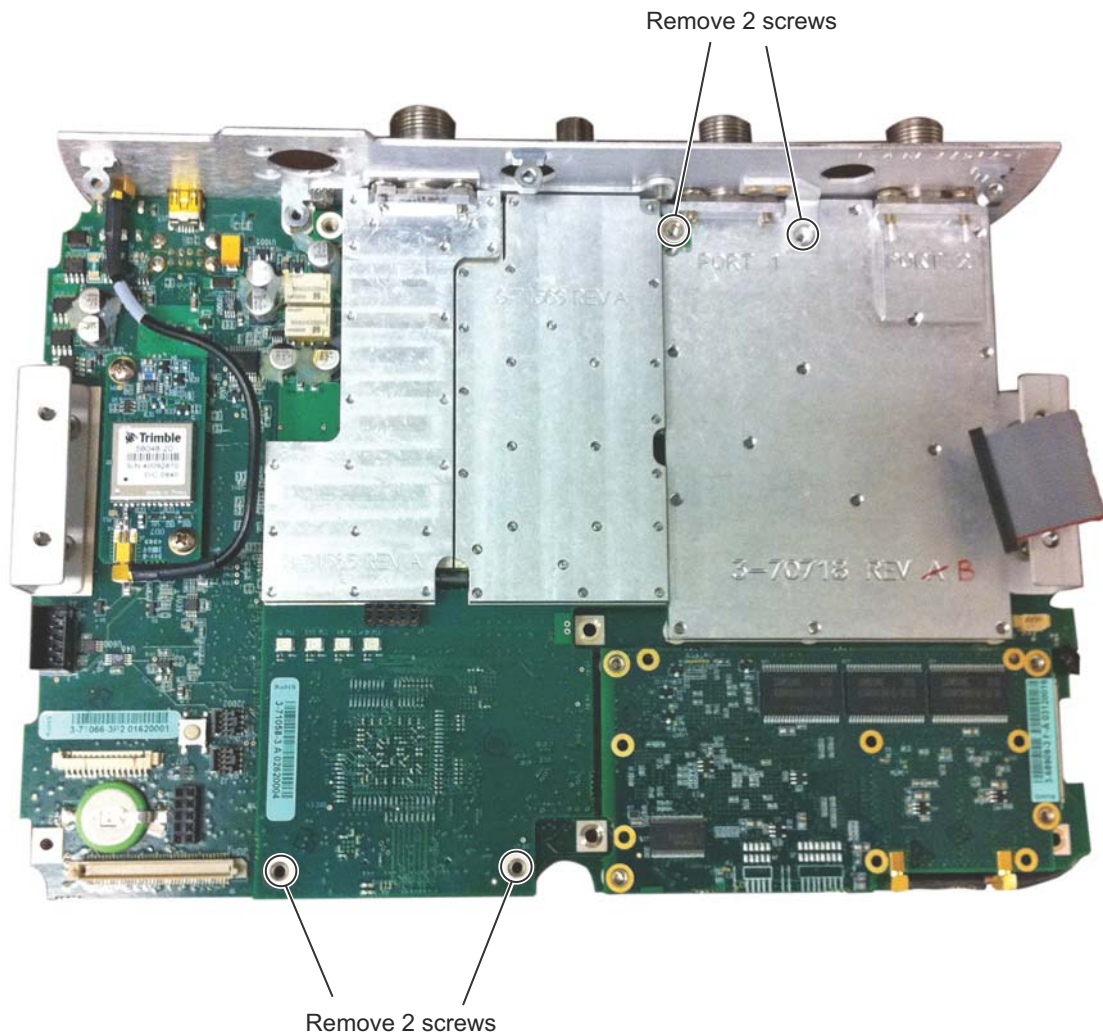

Figure 7-10. Remove 4 Screws
5. Turn over the PCB and remove the 4 screws shown in Figure 7-10.